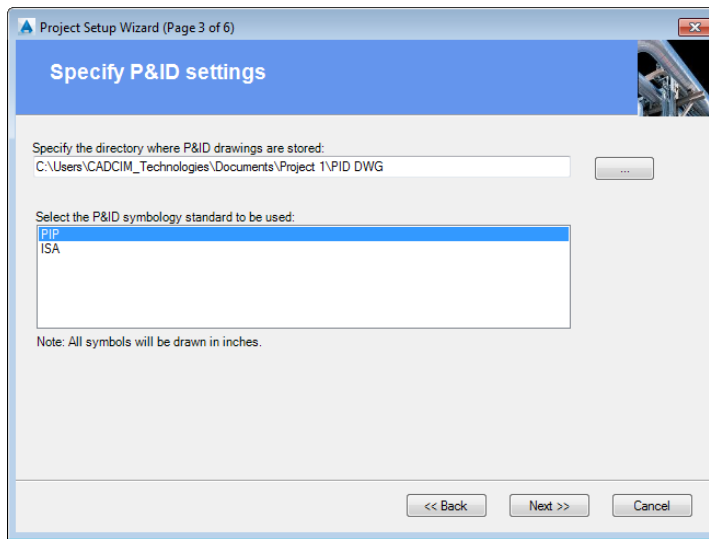

Figure 2-4 The Specify P&ID settings page
4. Choose the **Imperial** radio button and then choose the **Next** button; the **Specify P&ID settings** page will be displayed, as shown in Figure 2-4.